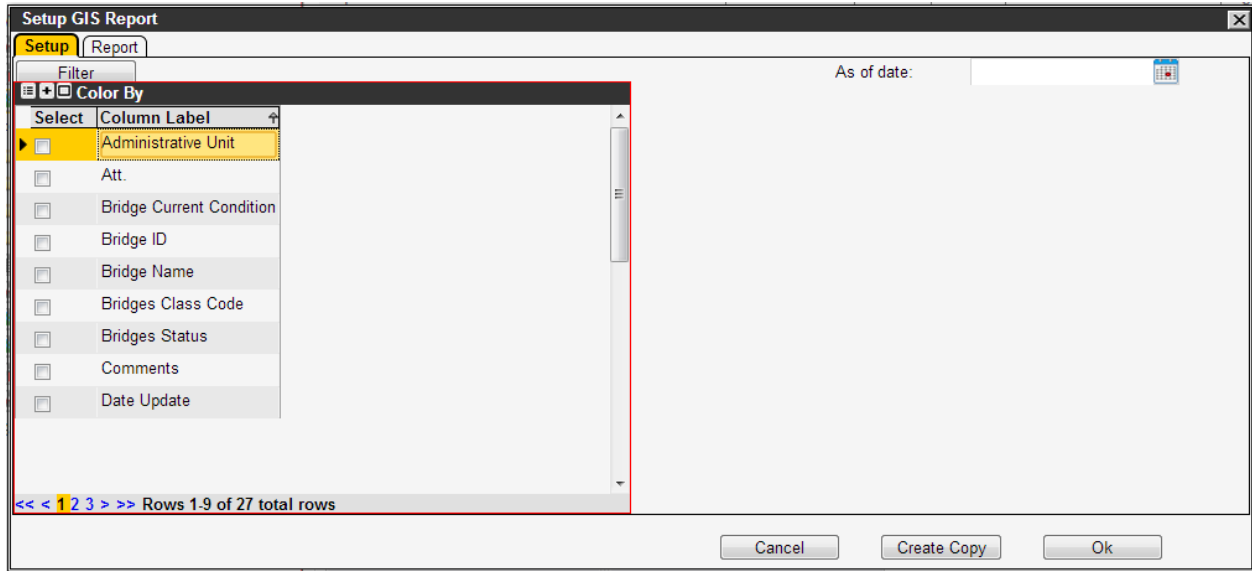

Figure 2-6. Setup GIS Report Dialog Box – Setup Tab Example (Repeated)
**TIP!** The Setup GIS Report dialog box (Figure 2-6) is opened to the **Setup** tab.